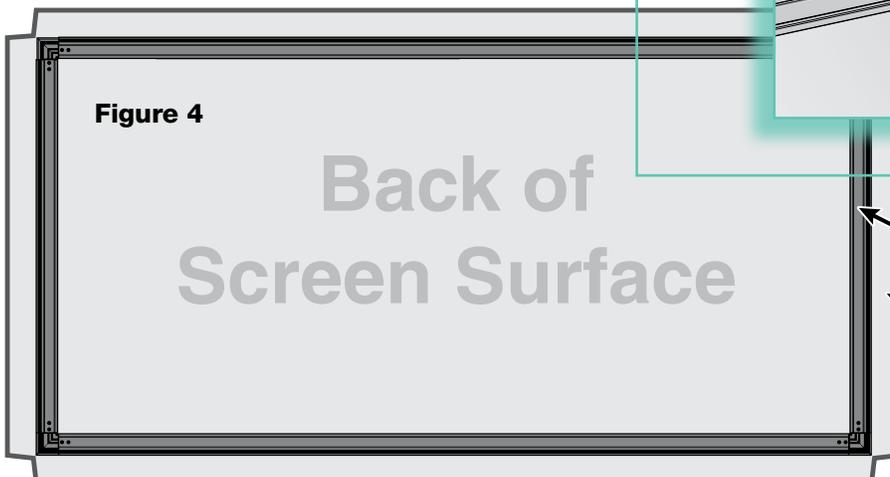

Figure 4
4. Carefully lay the screen surface down on a clean table or floor. Place the assembled frame in the center of the screen surface (see Fig. 4).